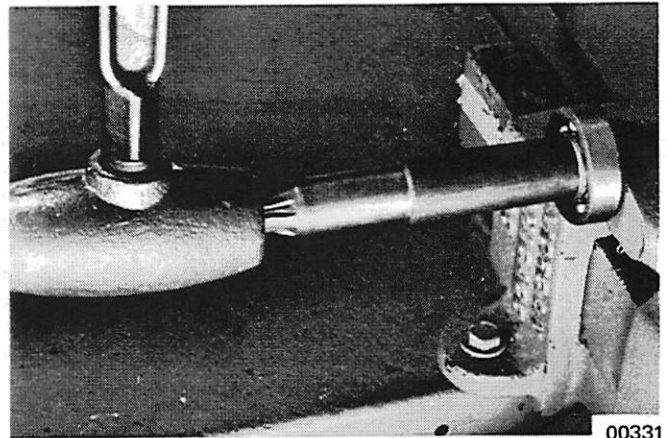

Figure 6. Install Ball Bearing on Drive Shaft
2. Place drive shaft in vise loosely, tapping against pinioned spline end until bearing seats. (Figure 6)